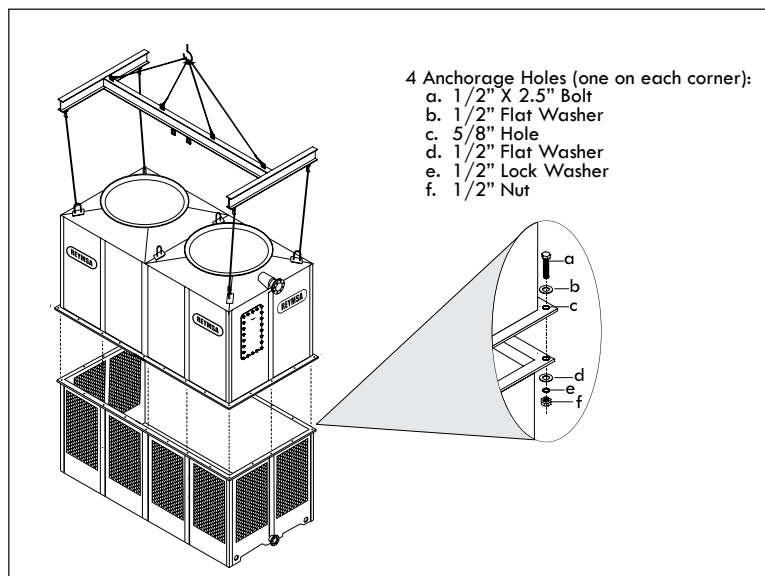

Figure A-57: Body section assemble for a Modular Tower (RTM-B or RTPM-B)
- J. Assemble body section #1 (for RTM-B or RTPM-B) with the basin section #1, making sure that the bolt holes on body section #1 are aligned with the perforations on basin section #1, then bolt down and secure the horizontal flanges with the stainless steel nut and bolt sets supplied by REYMSA (see Figure A-57 for reference).